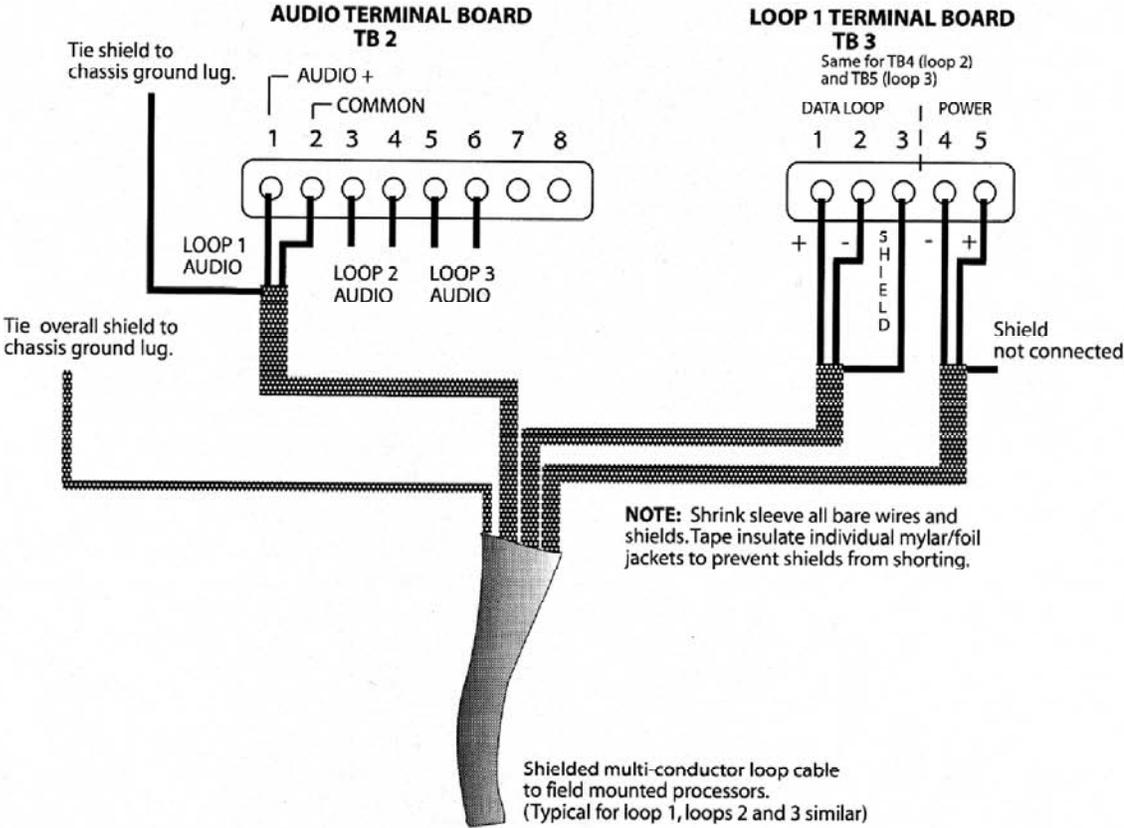

Figure 9. MX-5000 Loop Connections
- Connect the transponder loop cable as shown in Figure 9. Perform the connections for each transponder loop connected to your system.